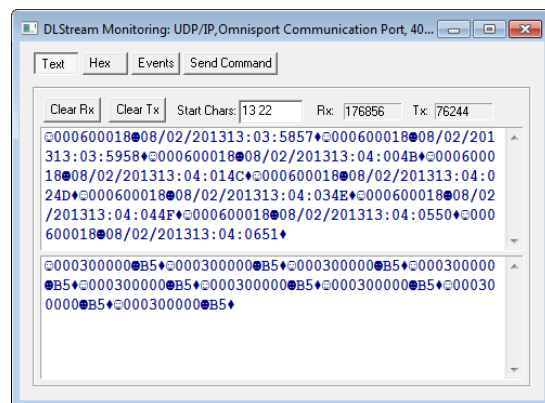

Figure 26: Monitor Window
- Click **Monitor** to ensure data is flowing between the two systems (Figure 26).